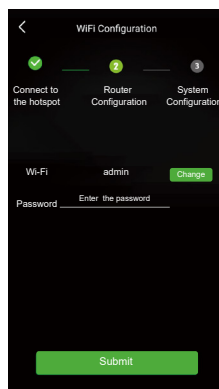

Figure 4.7 WiFi Setting
Step 4 Enter the WiFi account and password and then save it, the configuration is successful, click "next", as shown in Figure 4.7 and Figure 4.8.